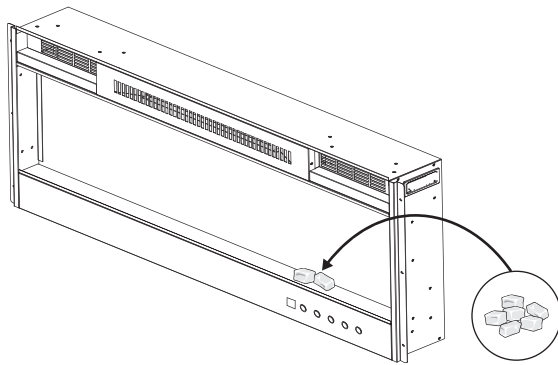

Figure 6
- I. Install the decorative crystals by placing them on the tray inside the fireplace. [Figure 6]